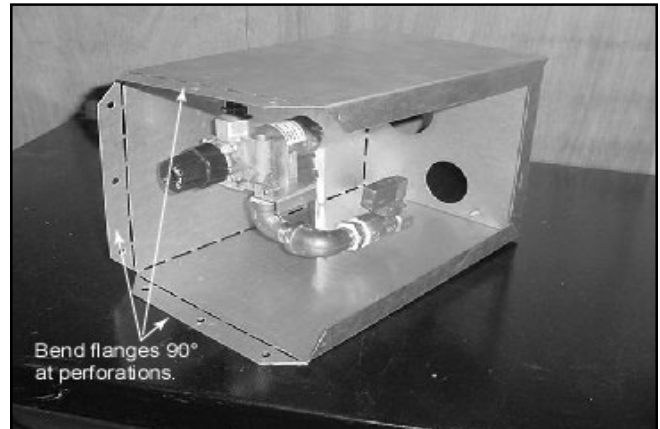

Figure 2 - Remove Right Side of Valve Box & Bend Flanges
- 1) Bend the flanges of the remaining three sides of the valve box 90° at the perforations (Figure 2), place a bead of silicone (not provided) on the back side of the flanges and slide the valve box into the square hole on the side of the FPS enclosure. (If you are not using an FPS enclosure, the valve must be located in an accessible position where one person can operate the valve and light the pilot simultaneously.) All connections within the enclosure need to be accessible for future maintenance or troubleshooting.